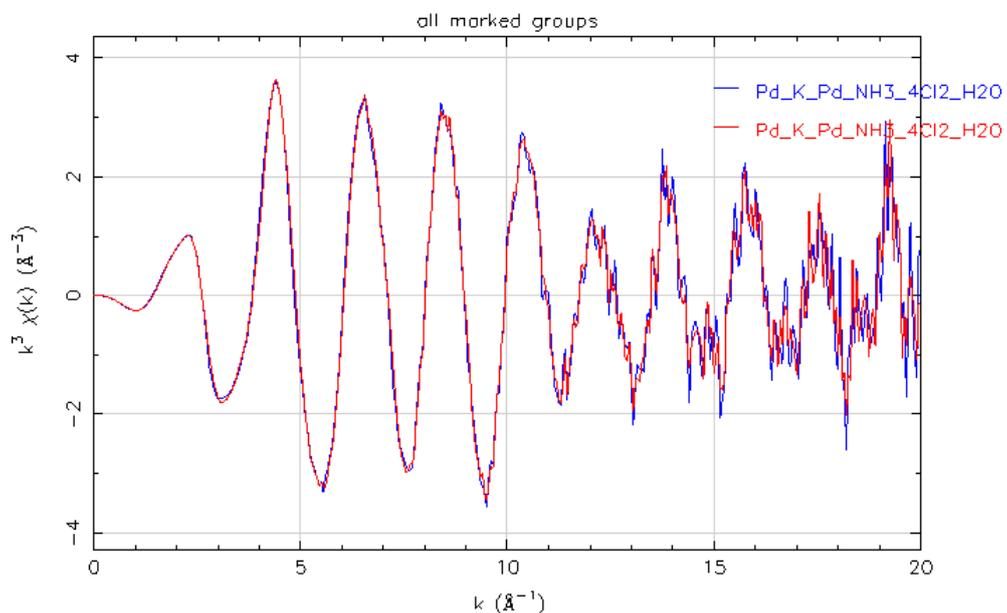

Fig.21 XANES spectra of $\text{Pd}(\text{NH}_3)_4\text{Cl}_2 \cdot \text{H}_2\text{O}$ (Pd-K edge, Si(311) net plane)
In addition, not all encoder-derived vibration components appear on the high wavenumber side of all EXAFS spectra in the high-energy region. Figure 21 shows the normalized EXAFS of Pd(NH₃)₄Cl₂ · H₂O measured on the Si(311) net plane, and unlike the measurement on the Si(111) net plane, no short-period vibration component is observed on the high wavenumber side, and the spectrum shape is almost unchanged after fitted encoder processing. Therefore, it is possible to determine whether the short-period vibration on the high wavenumber side originates from the encoder or not by comparing the spectrum without fitted encoder processing (Angle(o)) and with fitted encoder processing (Angle(fitted encoder)).